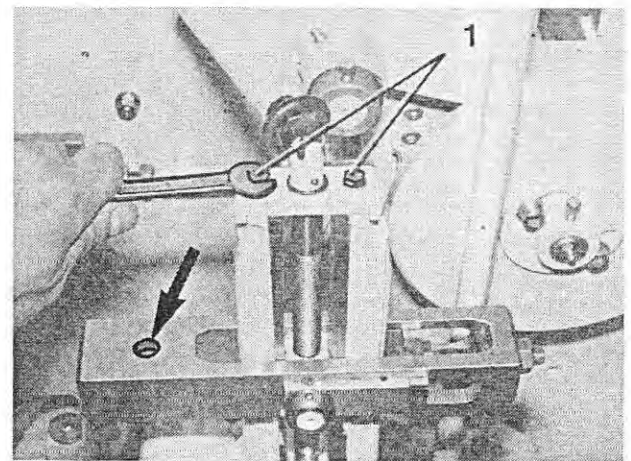

Fig. 248
7. Unscrew the locking screws (Figure 248/1) of the spindle bearing and remove the spindle bearing and spindle, the sliding pads as well as the sliding pad guide from the dosing lever.
Insert the sliding pad joint in such a way that the hole (Figure 248/arrow) points to the dosing piston.